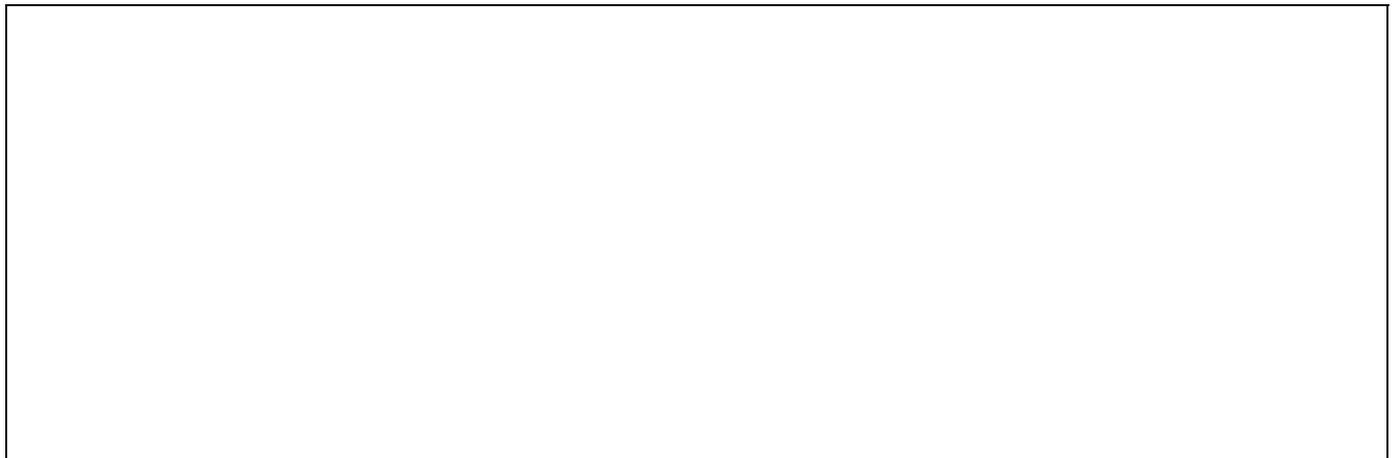

Figure 5.4 - Main Lever to Backbone Connection
5. After the backbone lever is fully assembled and leveled, connect the main levers to the backbone lever. Assemble the connecting link parts, being very careful to assemble them exactly as shown as in Figure 5.4.